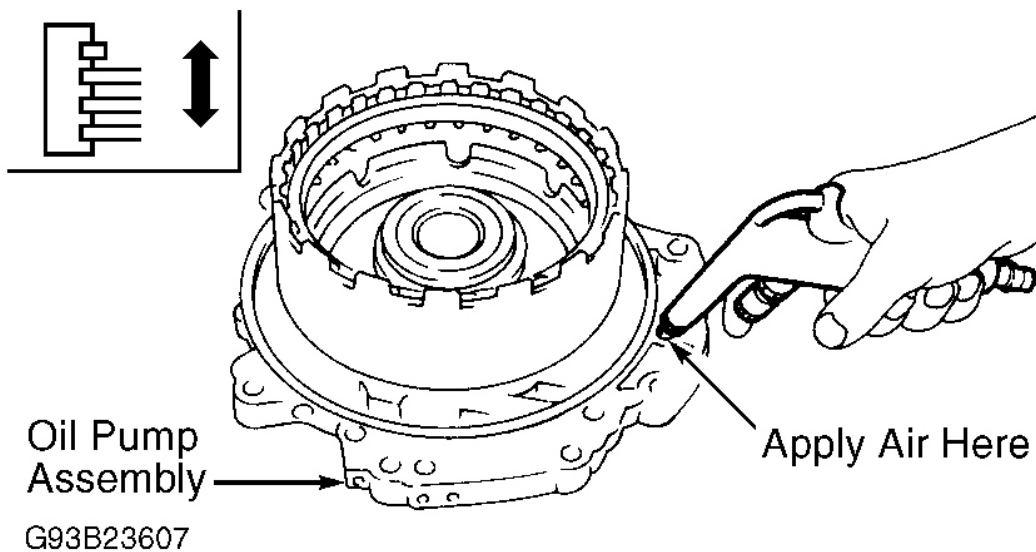

Fig. 31: Checking Reverse Clutch Operation
3. Check reverse clutch operation. Install seal ring onto drum support of oil pump cover. Install reverse clutch assembly on oil pump assembly. Apply compressed air to oil hole. See **Fig. 31**. Ensure retaining plate moves toward snap ring. If retaining plate does not move as described, "D" ring or oil seal may be damaged.